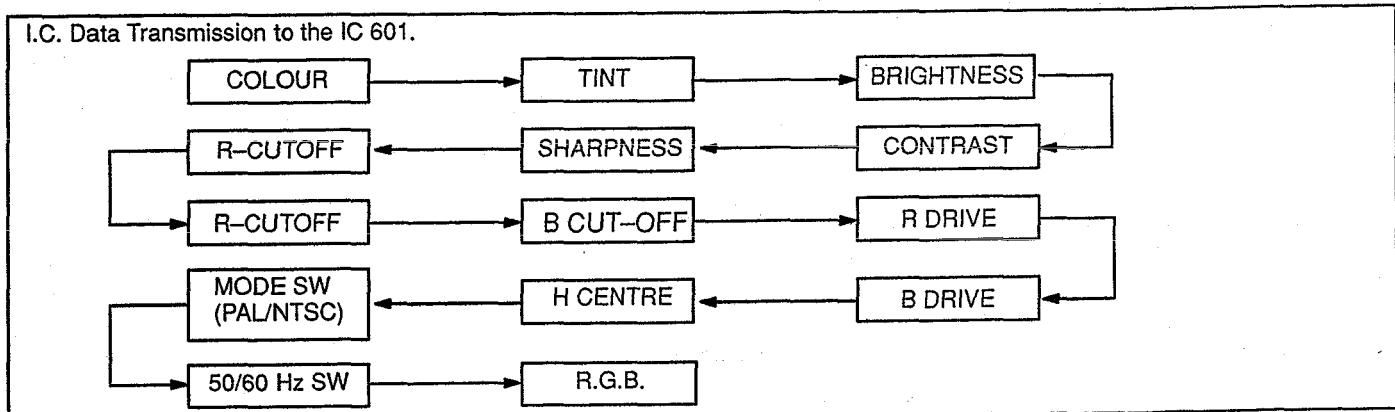

Fig. 4
1. Various control functions are possible via the I²C bus from the microcomputer IC1102 to VCJ IC601, as shown in Fig. 4.